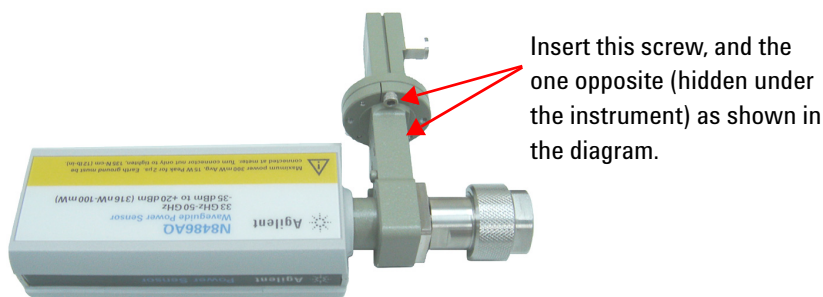

Figure 1-3 Connecting waveguide flange to the N8486AQ power sensor
- 2 Insert the two screws as indicated in Figure 1-3 located at the side of the flange. Insert the remaining two screws to either side of the flange. Tighten the four screws until finger tight.